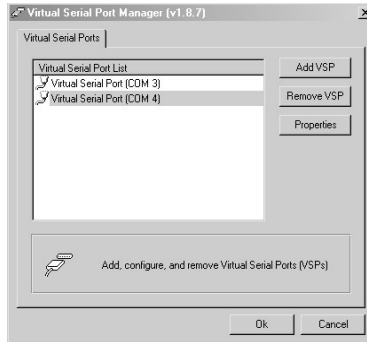

Figure 10: The Virtual Serial Port Properties Window (COM 3 and COM 4)
3. You can set a virtual port for each local port on your **VS-8DVI-R** (see Figure 10).